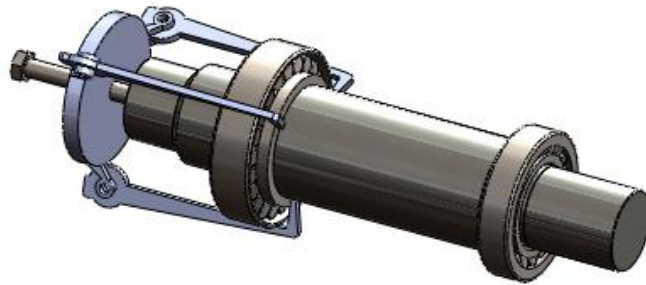

Figure 42 Output Shaft Bearing removal
8. Remove the bearing 32220 with the arm puller. See Figure 42.
9. Remove the bearing 32224 with the arm puller. See Figure 42.